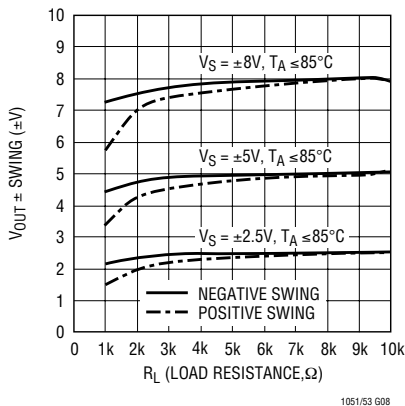

Figure 8. Output Voltage Swing vs Load
Although initially chopper stabilized op amps were designed to minimize DC offsets and offset drifts, the LTC1051/LTC1053 family, on top of its outstanding DC characteristics, presents efficient AC performance. For instance, at single 5V supply, each op amp typically consumes 0.5mA and still provides 1.8MHz gain bandwidth product and 3V/ μ s slew rate. This, combined with almost distortionless swing to the supply rails (Figure 8), makes the LTC1051/LTC1053 op amps nearly general purpose. To further expand this idea (the “aliasing” phenomenon) which can occur under AC conditions, should be described and properly evaluated.
4. When the frequency, f_{IN} , of the input signal is less than f_{CLOCK} , the alias signal(s) amplitude(s) directly scale with the amplitude of the incoming signal. The output “signal to alias ratio” cannot be increased by just boosting the input signal amplitude. However, when the input AC signal frequency well exceeds the clock frequency, the amplitude of the alias signals does not directly scale with the input amplitude. The “signal to alias ratio” increases when the output swings closely to the rails. (See Figure 5b and Figure 7.) It is important to note that the LTC1051/LTC1053 op amps, under light loads ($R_L \geq 10\text{k}$), swing closely to the supply rails without generating harmonic distortion (Figure 8).